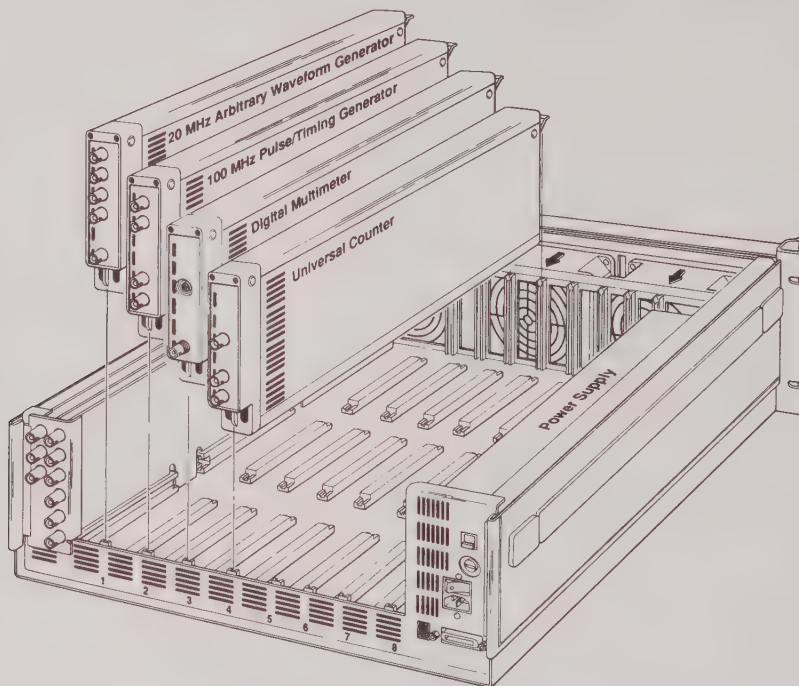

Figure 2-1. Module Installation
2. Place the module into the channel slots as illustrated in figure 2-1*. When inserting the module into the slots ensure the module guides slide into the top chassis alignment guides at either end of the module. Before setting the module in its channel slot visually verify correct positioning.